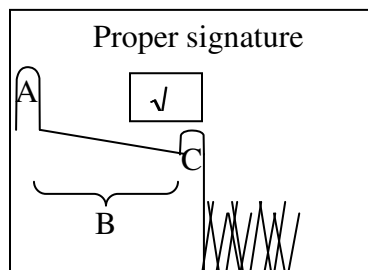
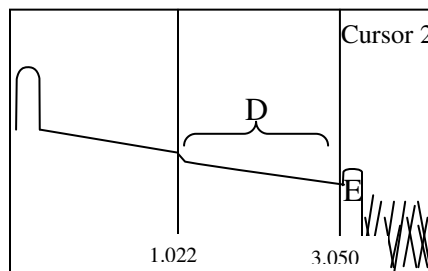

Figure 2
Figure 5
Fig 5 a) Making figure 8
Clean FCPC connector using Iso-propanol & Butter paper . Connect it to OTDR out put so that you will observe square peak (A Figure 2)at starting of OTDR trace. Next to this peak OTDR Traceshould be smooth & continuous slope.(B Figure 2) Adjust connector so that you will get proper OTDR Trace as shown in Figure 2
Once proper Trace is observed on OTDR . Cut small piece (1 to 2 mm) of fiber at another end of Dummy spool using sharp nipper & you will observe square peak on OTDR .(C figure 2) . Place "Cursor 1" at beginning of peak ensure that it is on the linear portion of trace . Note down "Cursor 1" reading .Now connect Fiber under Test to dummy fiber using Mechanical Or Fusion Spicer. You will find trace as shown in figure 5 . Set "Cursor 2" at starting of extreme square peak & note down reading. Subtract " Cursor 1" reading from "Cursor 2' & you will get Optical length of Fiber in Cable.
**Note :** If you are not getting End peak (E Figure 5) take out another end from Drum & cut particular fiber (1 to 2 mm) & observe OTDR trace for Peak